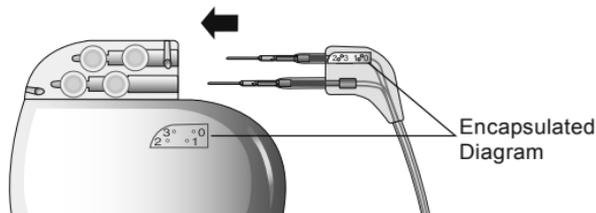

Figure 7. Insert extension connector pins fully into Model 3023 Neurostimulator connector block.
3. Confirm that the encapsulated diagram on the extension has four electrodes matching the encapsulated diagram on the neurostimulator (Figure 7).
4. Insert the extension connector pins into the neurostimulator until they are fully seated within the connector block (Figure 7).